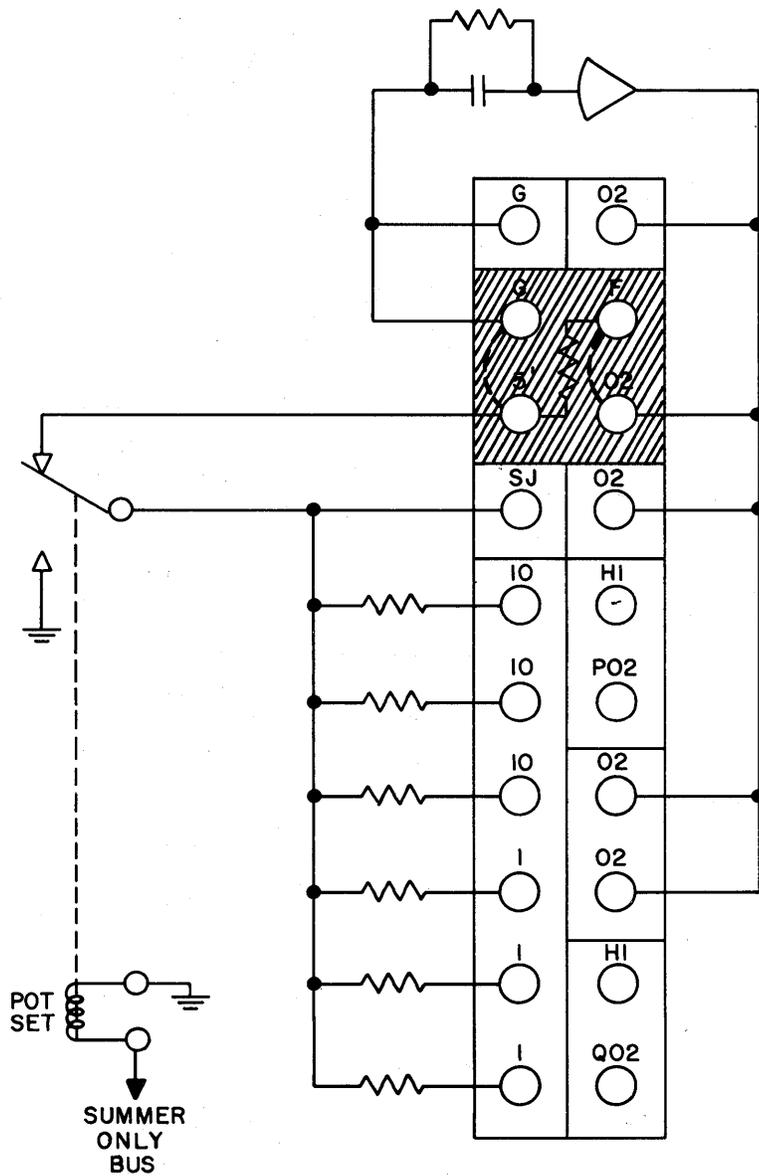

Figure 11. Summing Amplifier Connections.
(2) *Summing Amplifier.* Figure 11 shows the wiring associated with the Summing (only) amplifiers. A four-prong bottle plug is inserted in position as indicated by the shaded area. The Pot Set relay is operated from the Summer Only bus.